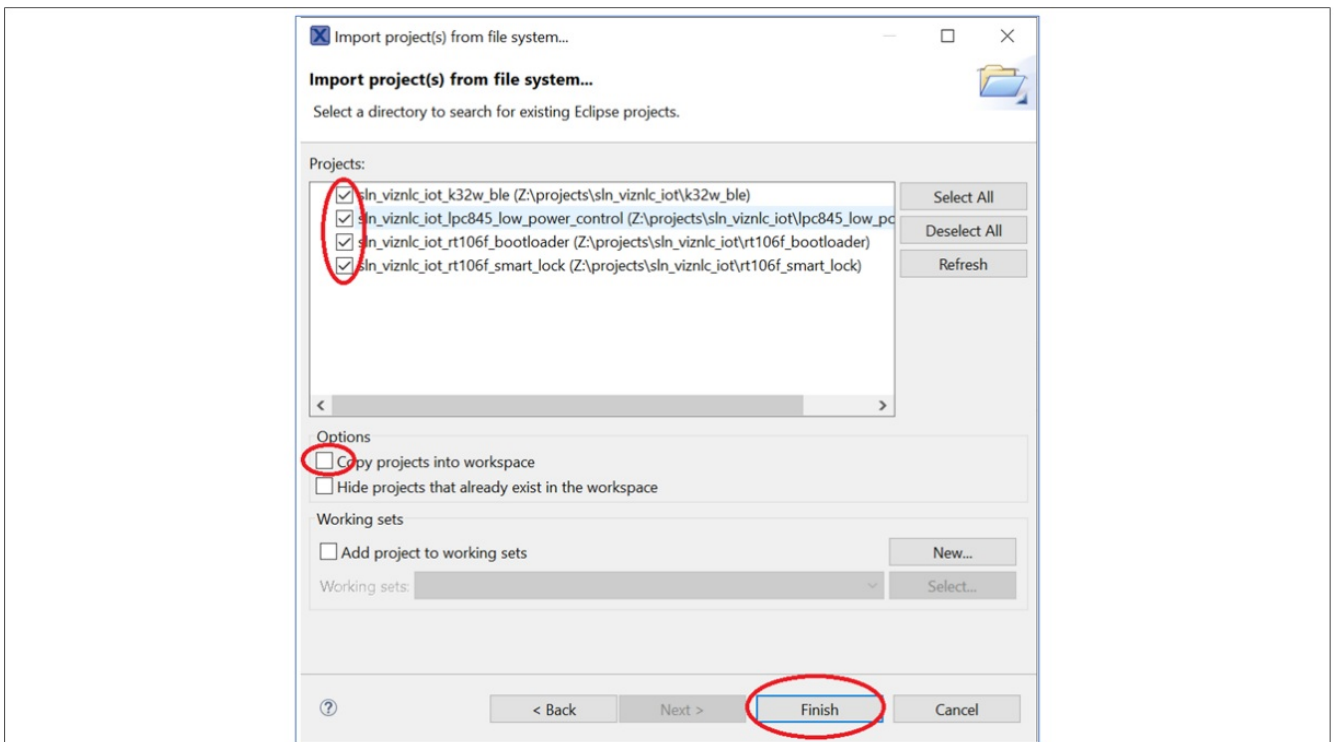

Figure 28. Import project(s) from file system
2. Import the files specified in Figure 28 from the displayed screen.